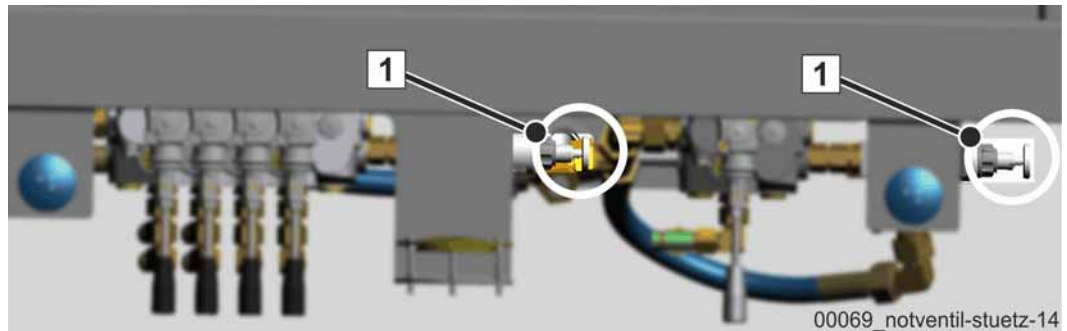

Fig. 211 Emergency valve for release button (S 65 SXF)
For machine models with type S65SXF, the valve on each release button has to be actuated manually (1) (**Fig. 211**) in addition to the control lever (7).